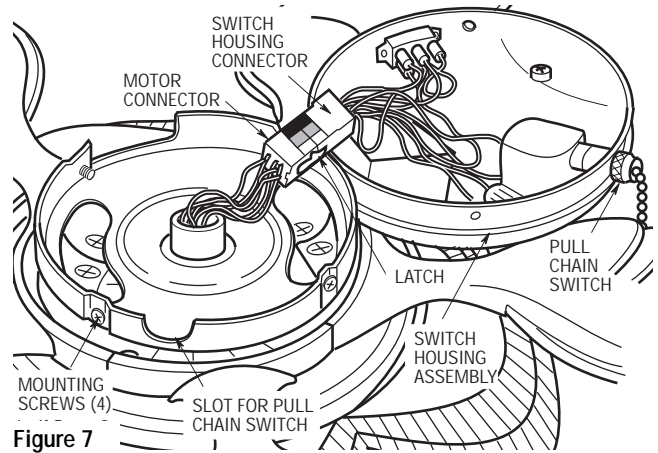
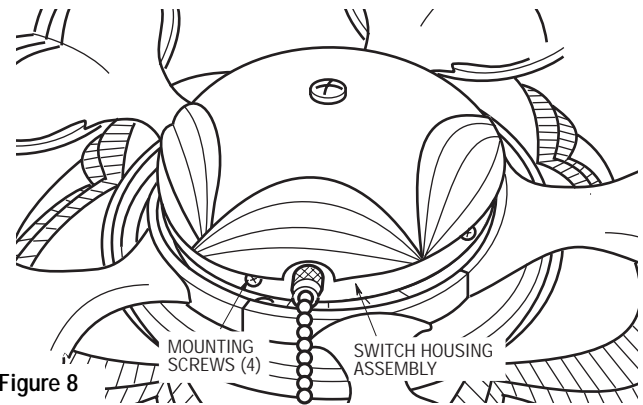

Figure 7
Figure 8
- 11. Engage the connector of the switch housing assembly with the motor connector (Figure 7). The two connectors are keyed and color-coded and must be mated correctly (color-to-color) before they can be engaged. Make sure the connector latch closes properly.
- 12. Remove the four mounting screws from the switch housing plate (Figure 7). Position the switch housing assembly on the switch housing plate and secure using the four mounting screws (Figure 8).
**NOTE: The switch housing assembly must be oriented so that the pull chain switch will fit into the rounded slot (Figure 7) in the switch housing plate.**